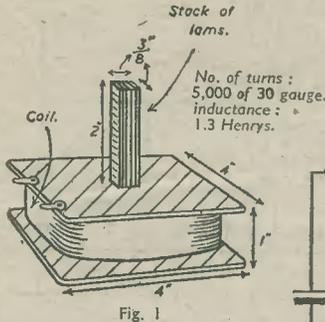
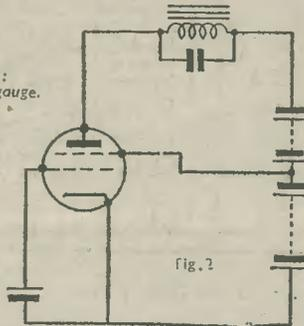

Fig. 1
Fig. 2
Fig. 1 shows the most interesting component of this new device, the coil to be tested having to be placed over the stack of laminations. The wire is wound on a bobbin with presspahn flanges to keep it snug. Insulated wedges assure rigidity. Fig. 2 shows the basic circuit of the dynatron oscillator.
For instantaneously and visually checking coils for shorting turns has been resolved around an oscillatory circuit so designed that it will stop oscillating when a defective coil is coupled to it magnetically. The set-up comprises a negative resistance oscillator of the dynatron type, the inductance of which is representative of the positive resistance in the circuit and to which is incorporated an explorer testing stack or pillar of iron stampings over which the coil to be checked is placed. Doing so changes the circuit constants of the network and not only stops it from oscillating but causes a small flashlight bulb to be extinguished as an indication of a coil with partial or wholly shorting turns. If the coil under test is without this fault, the lamp remains alight. Fig. 1 depicts the exploring coil and stack, together with dimensions and winding data for construction.
These can approximately range from 1,000 to 5,000 c.p.s., the final design, shown in Fig. 2, having an operating frequency of 2,000 c/s, dynatron controlled. Fig. 3, on which values can be noted, illustrates that the signal frequency is fed through a condenser to a single valve amplifier, one designed to serve two purposes: (1) To amplify the signal to such power that it is sufficient to light the flashlight bulb. (2) To supply automatic bias of such sufficiency in limiting action that it will prevent the lamp from burning out; additionally, this also acts as a sensitivity factor to prevent excessive oscillation and prevent the circuit becoming insensitive to minute changes in inductance or positive resistance.